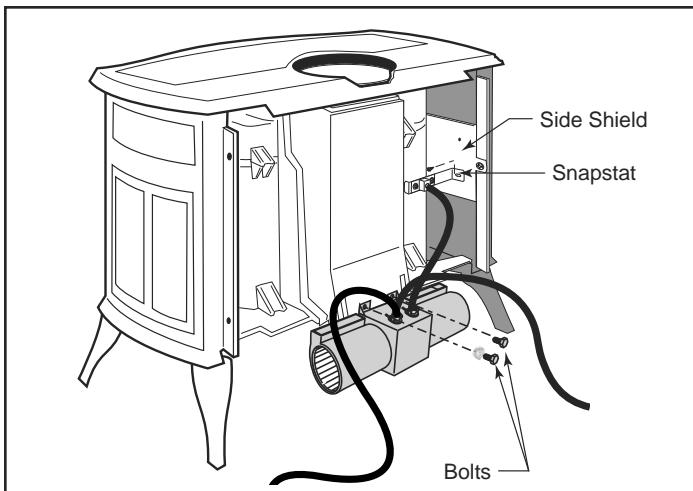

Figure 3.4 - Attach blower assembly and snapstat.
4. The rheostat control switch attaches to the left side of the valve bracket at the front of the stove. (Figure 3.4)